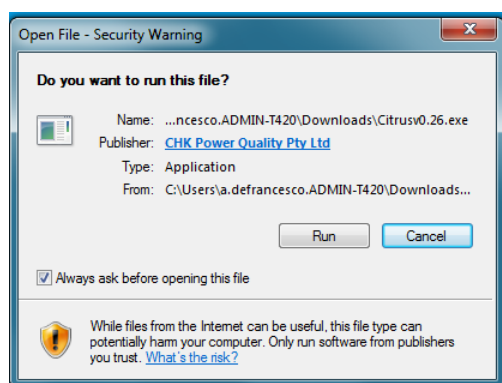
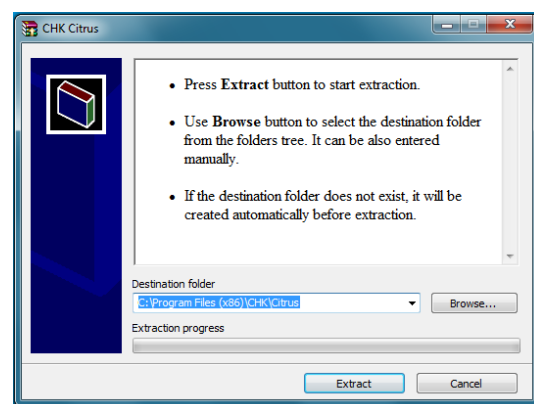

Figure 2.1.3
Figure 2.1.4
Step 3: Click on the file icon. The message box in figure 2.1.3 appears.
Step 4: Click the 'Run' button as shown in figure 2.1.3. The box in figure 2.1.4 appears.
Step 5: Click the 'Extract' button shown in figure 2.1.4 to the desired location. The icon in figure 2.1.5 will appear on your desktop and in the **start menu** as shown in figure 2.1.6.